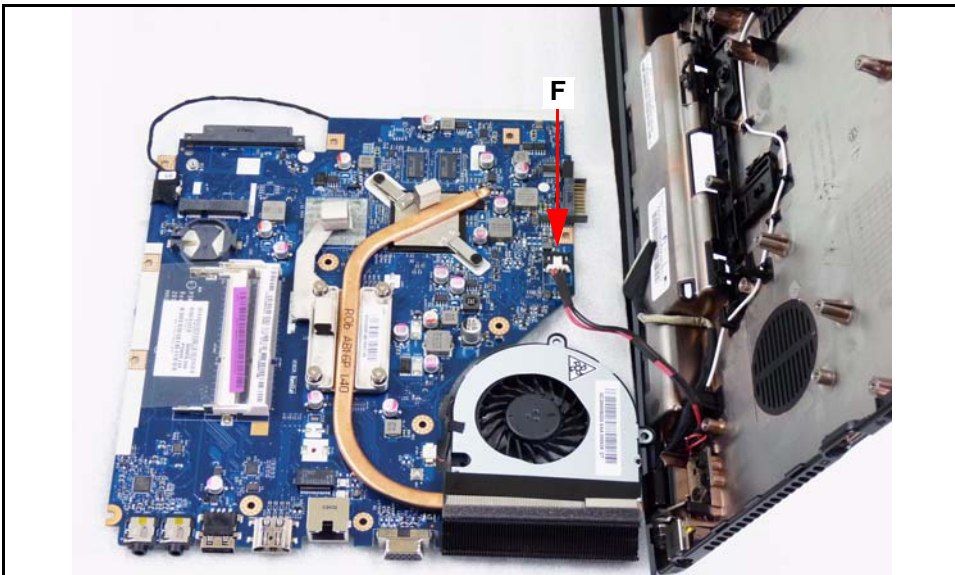

Figure 3-30. Mainboard
8. Lift the mainboard from the lower cover and turn it over onto the LCD panel. (Figure 3-30)
9. Disconnect the DC-IN cable from the mainboard connector (F). (Figure 3-30)
4. Connect DC-IN cable to mainboard connector (F). (Figure 3-30)